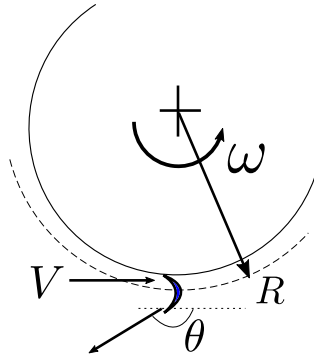

Figure 17: Pelton wheel
19. A Pelton wheel is shown in figure 17. Water jet of cross-sectional area A hits the bucket of the wheel at speed V and is turned at an angle θ with same speed. As a result the wheel rotates with an angular velocity ω . Such kind of wheels are used for generation of hydro-power in areas where sufficient water head is available. Calculate the power delivered to the wheel by the water jet. Assume the speed of the bucket as $R\omega$.